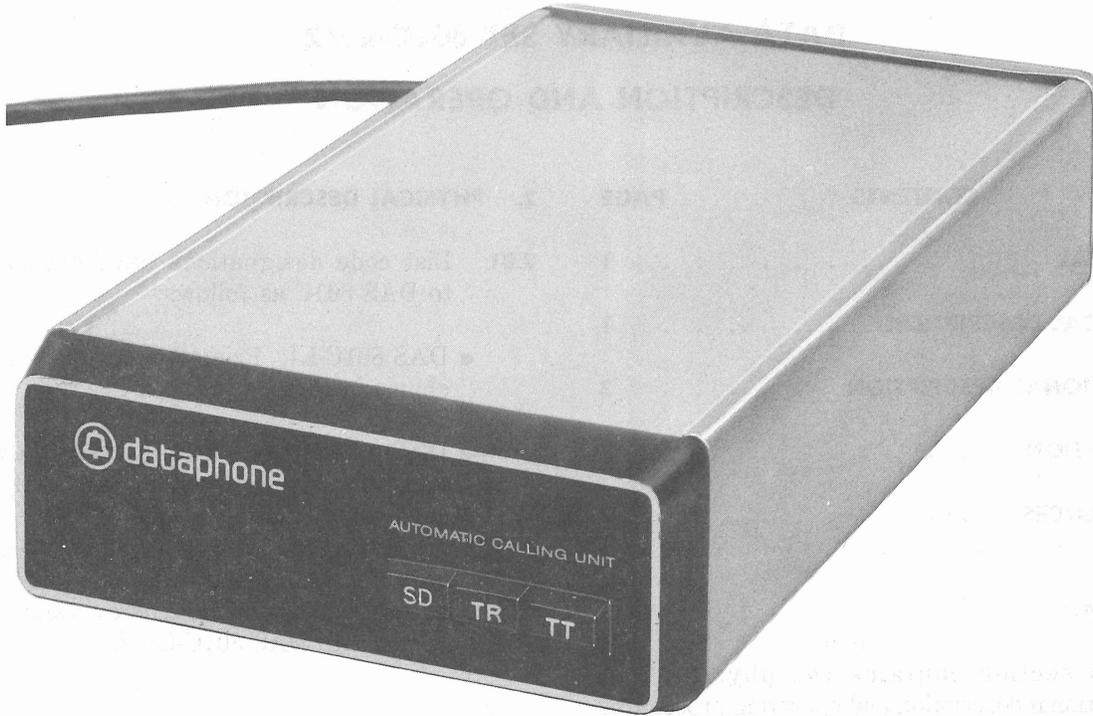

Fig. 1—Front View of DAS 801C-L1/2
1.03 DAS 801C-L1/2 (Fig. 1) provides automatic calling capabilities to a data station and is sometimes referred to in this section as an ACU (automatic calling unit). DAS 801C-L1/2 operates on lines arranged for Touch-Tone® signaling and supersedes all earlier models of DAS 801C.